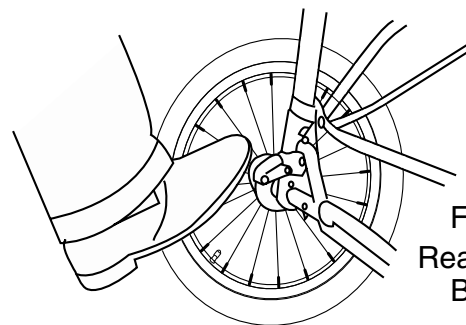
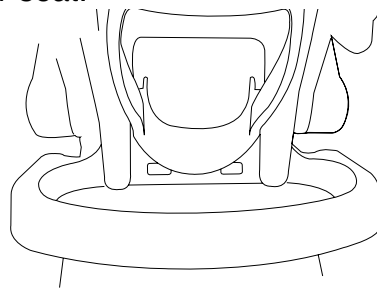
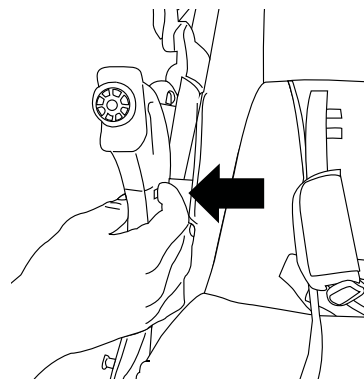

Fig. 10
Fig. 12A
Fig. 13
15. Rear Wheel Brakes: To lock rear wheel brakes, press downward on brake lever located on each rear wheel. (Fig. 10) Please note in order to line up the break tab with brake tab slots stroller may need to be moved forward or backwards slightly. Check to make sure the brakes are in a fully locked position, so stroller will not move when pushed. To release brakes, gently push up on the brake lever.
18. To use the car seat feature, lock back wheels, close the canopy as described in the canopy section (Pg. 10, Fig. 10). Recline seat by squeezing both sides of cord housing as described in seat back positioning section (Please see Page 12, Fig. 11). Turn and lock grey latches (Fig. 12). Align car seat as shown in Fig. 12A. Angle feet first, while lowering car seat into a locked position on the child tray. Car seat is in a locked position when the car seat "CLICKS" into the child tray. Graco car seat locked position (Fig. 12B) Evenflo car seat locked position (Fig. 12C). Make sure car seat is locked in place by pulling upward on car seat. Make sure car seat is locked in place by pulling upward on car seat.
20. To use Chicco Keyfit 30 Car seat first, lock the back wheels, close the canopy as described in the canopy section (Pg. 10, Fig. 10). Recline seat by squeezing both sides of cord housing as described in seat back positioning section (Please see Page 12, Fig. 11) remove child tray (Please see Page 10, Fig. 8C) and child tray attachment arms. Press the release buttons located on the inner side of stroller arm. Press release button and pull upward at the same time until tray attachment arm is released (Fig. 13).